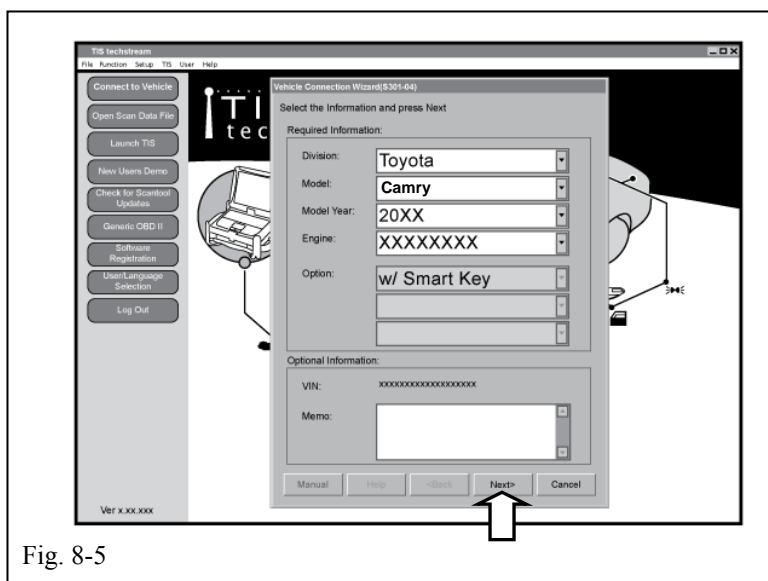

Fig. 8-5
- (Fig. 8-5)
- (h) Click “Next>.” (Fig. 8-5)